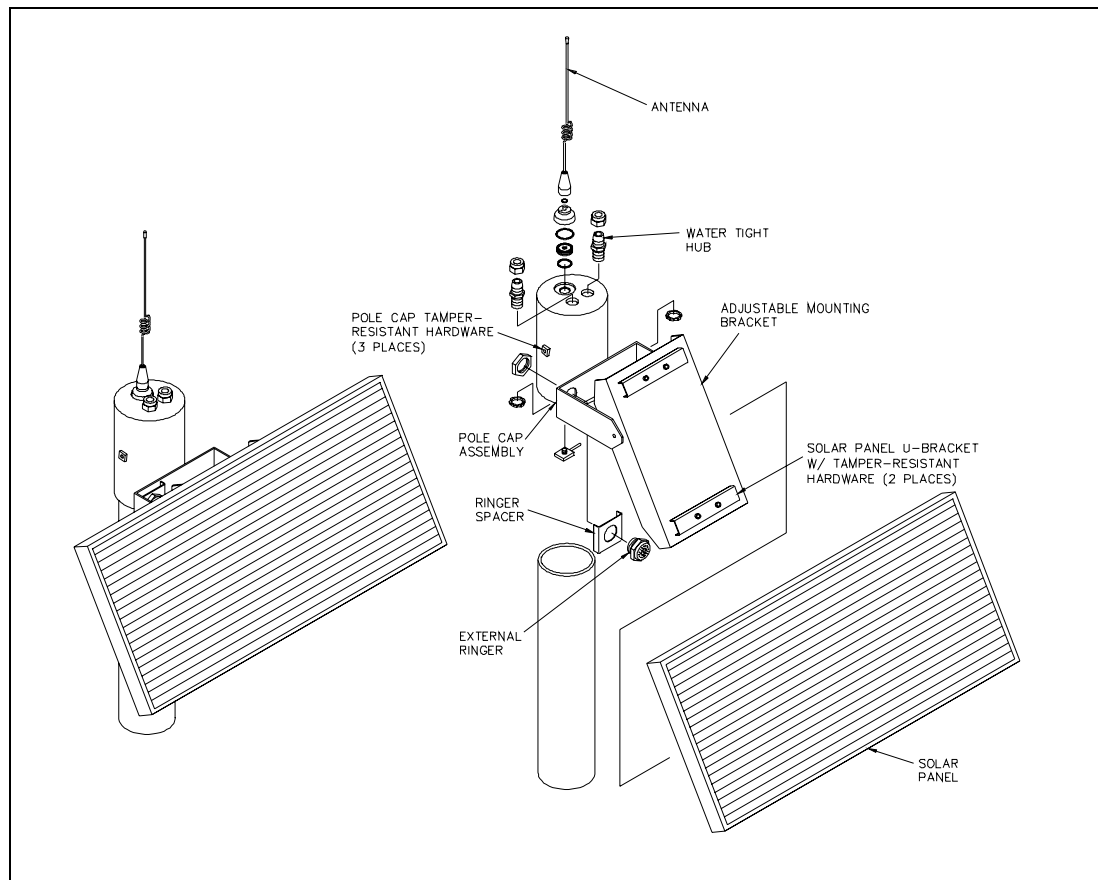

Figure 1. Pole Cap Assembly with Exploded View
Refer to Figure 1 while completing the following steps to install the Pole Cap Assembly.
The pole cap housing contains three holes: a 0.75-inch hole for the antenna coaxial cable, a 0.875-inch hole for the external ringer cable, and another 0.875-inch hole for the solar panel cable entry. The attached adjustable mounting bracket is used to mount the Siemens solar panel. Refer to Figure 1 below while completing the steps to install the pole cap assembly onto the pole.
2. Secure the Siemens solar panel onto the pole cap housing's adjustable mounting bracket using two U-bracket with the tamper-resistant hardware to clamp down on the inside lip of the solar panel. See Figure 1.